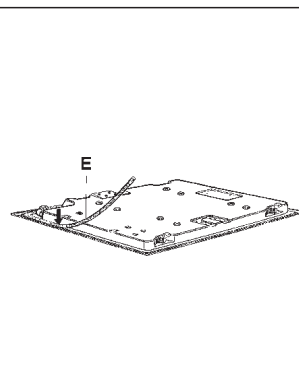

FIG. 9
- Overturn the hob and correctly position seal "E" (fig. 9) under the edge of the hob itself, so that the outer side of the seal perfectly matches the outer edge of the hob. The ends of the strips must fit together without overlapping.